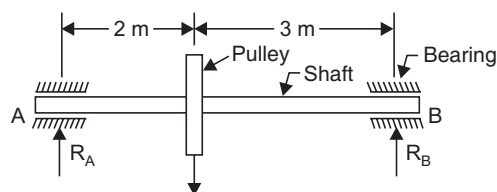

Fig. 11.3
**Sol.** Refer to Fig. 11.3. Let  $R_A$  and  $R_B$  be the maximum pressures on the bearings.